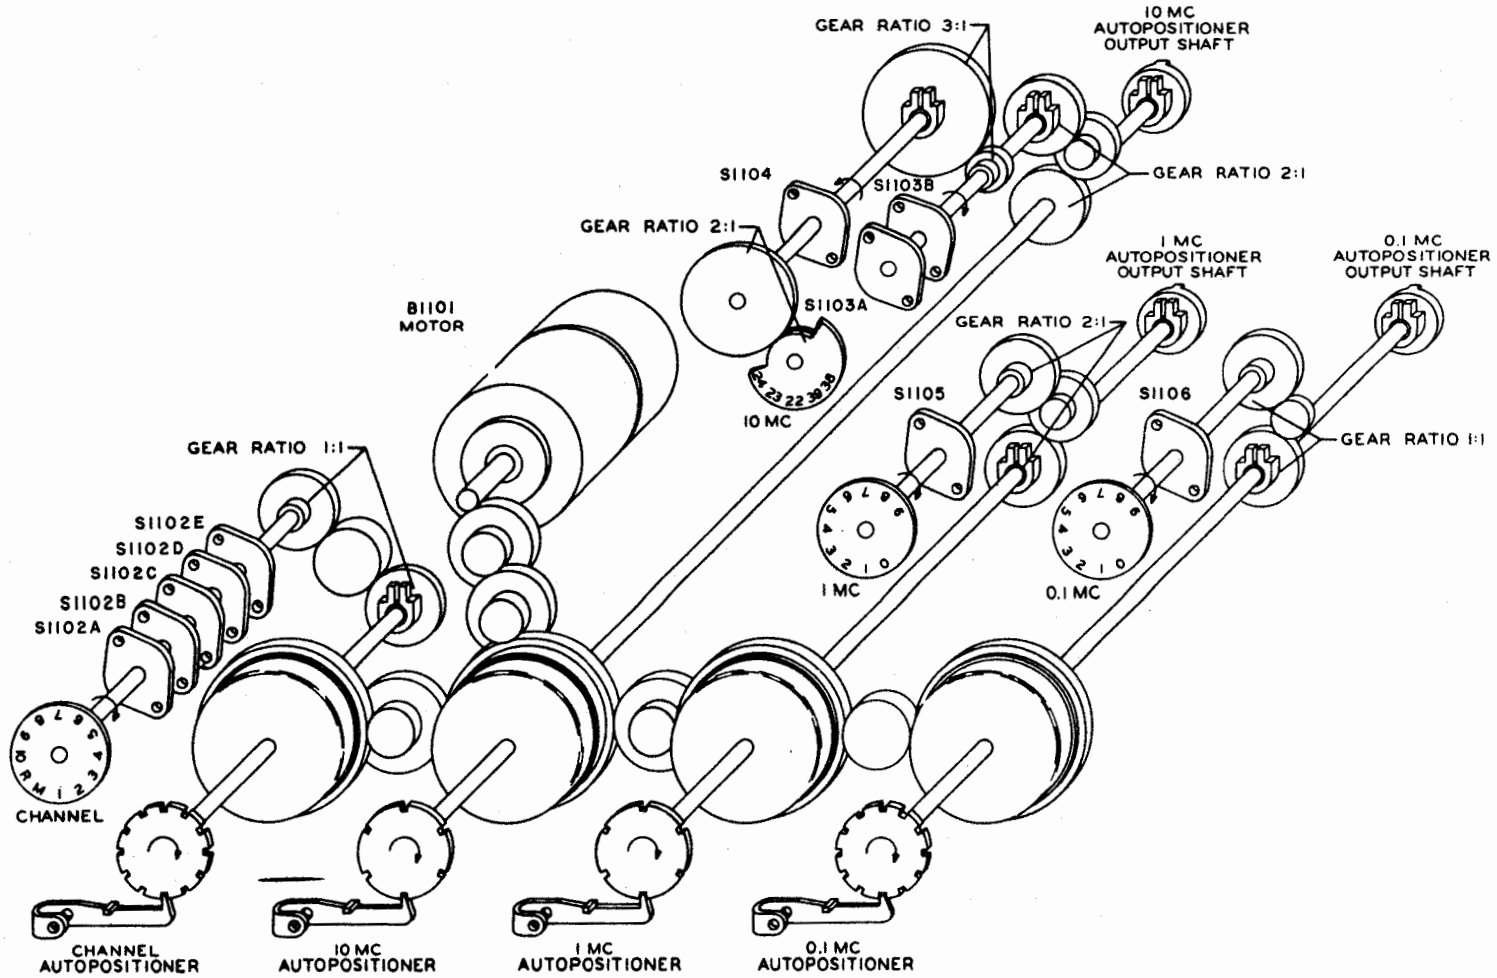

Figure 4-21. Radio Receiver R-278B/GR, Frequency Selector System, Mechanical Drive Diagram
7. Referring to figure 4-21, the motor drives the four clutch gears through a step-down geared coupling. Only the channel autopositioner stop-wheel is free to turn, as the other three stop-wheels are locked by their pawls causing their respective clutches to slip.
(a) FREQUENCY SELECTOR SYSTEM MECHANICAL DRIVE.—Referring to figure 4-21, motor B1101 is energized at a time when one or more autopositioner pawls have lifted from their stop-wheels. A typical switching operation is given in the following sequences.